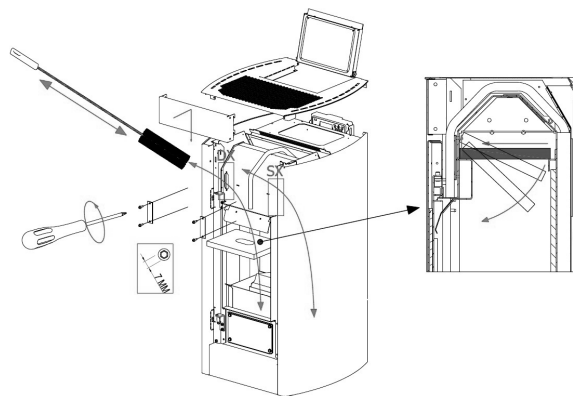

Fig. 84 - Cleaning
- Remove the upper deflector (see **Fig. 84**), vacuum any ash and clean the internal combustion chamber walls.